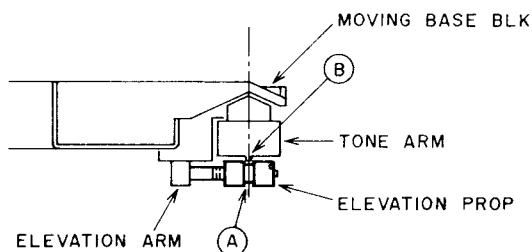

Fig. 4-1
- 2) Hold the Tonearm with the Moving Base Block and separate the Elevation Prop from the Tonearm. Then, bring the Elevation prop close to the Tonearm, and adjust the Elevation prop close to the Tonearm, and adjust the Elevation Prop with a flat type screwdriver to the place where the position of the notch **A** on the Elevation Prop coincides with the projection part **B** on the Tonearm as shown Fig. 4-1.